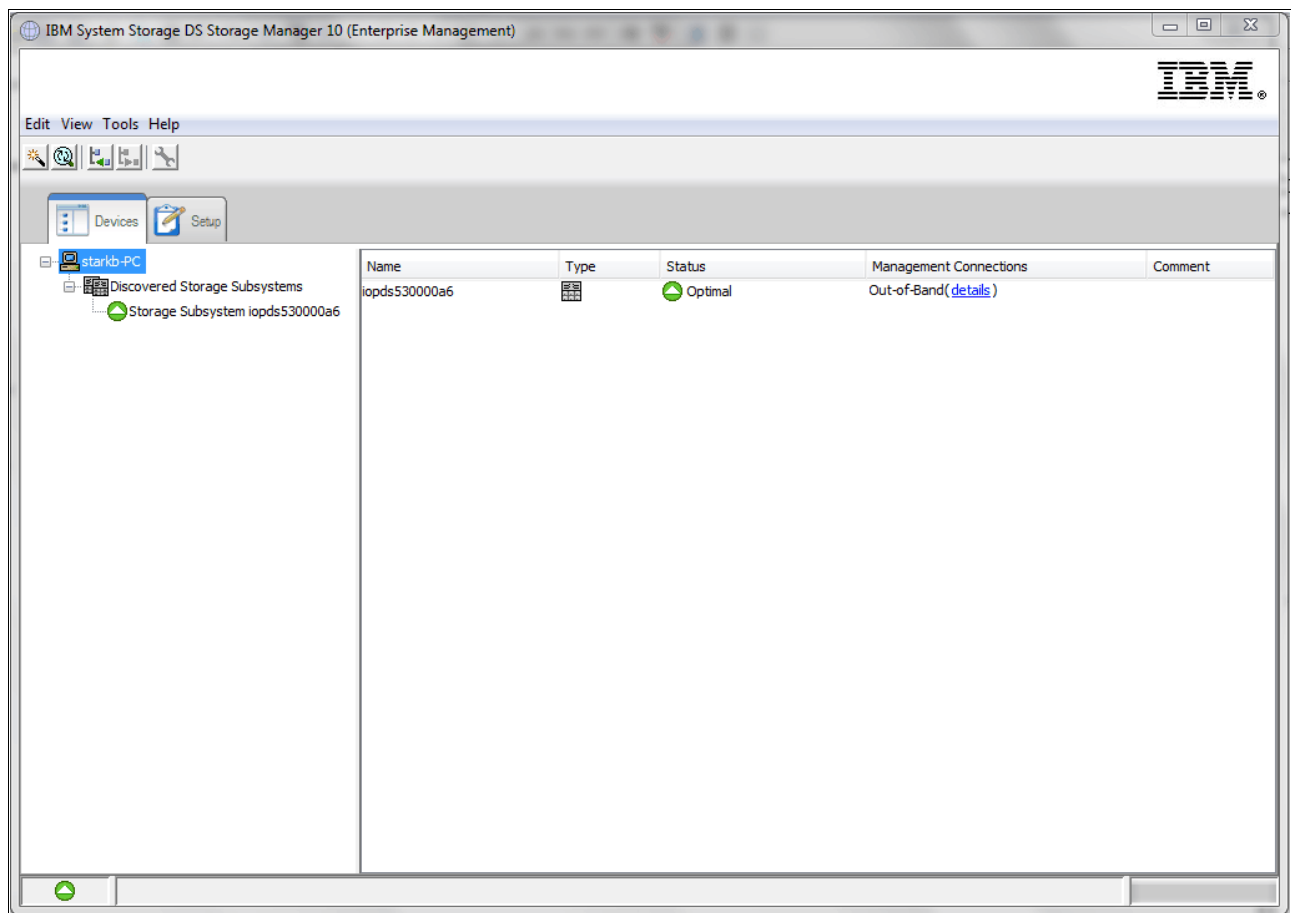

Figure 2-47 DS Storage Manager (Enterprise Management)
1. To get started, launch the IBM System Storage DS Storage Manager 10 Client. After it is started, you see a panel that looks like the one in Figure 2-47. You need to *double-click* your storage subsystem.